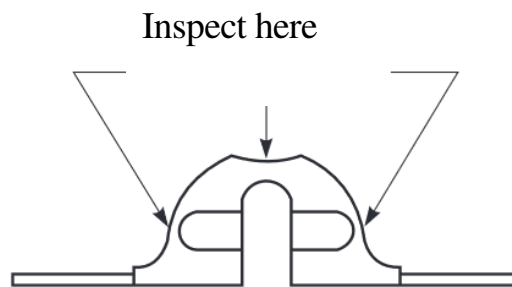

Figure 5. Spots of clutch inspection.
- with clutch drive – during the inspection of the elastic element (Fig. 5) of membrane clutches, the following shall be looked for: